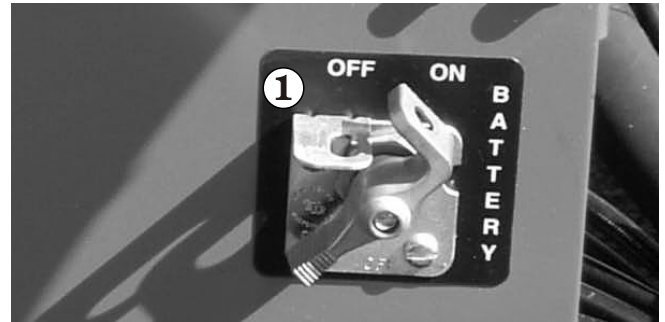

Figure 8.7
- Set the **Battery** switch ① to on (see Figure 8.7).